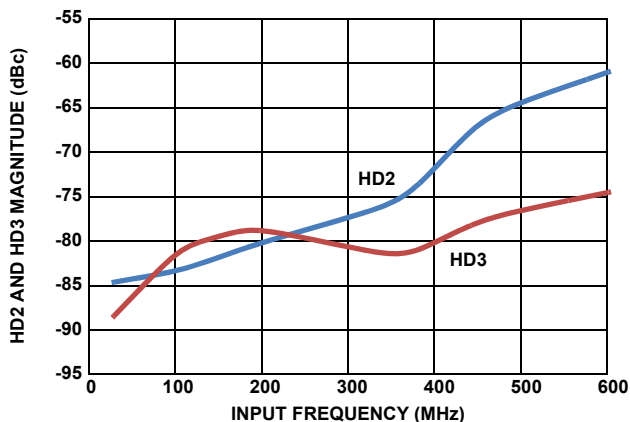

FIGURE 15. HD2 AND HD3 vs F_{IN} USING 500MSPS CLOCK AND TARGETING -1dBFS
4. HD3 has improved to -93dBc from a typical -88dBc looking at Figure 15 at 40MHz